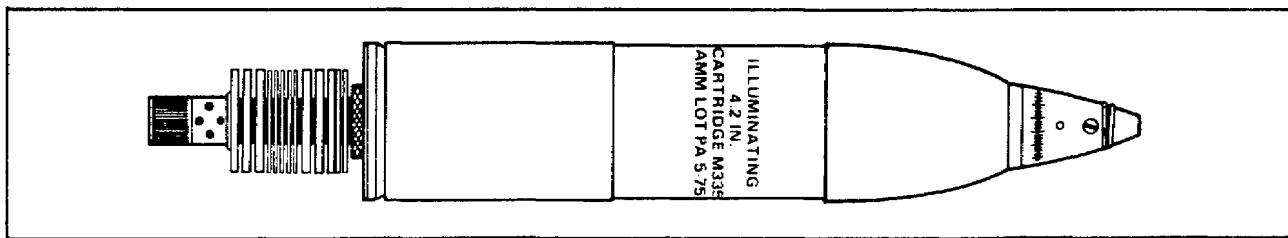

Figure 35. 4.2-Inch Illuminating Mortar Cartridge.
**4.2-Inch Illuminating Mortar Ammunition.** The 4.2-inch illuminating mortar cartridge is shown in Figure 35. This cartridge uses a time fuze and a black-powder expelling charge. The filler consists of illuminating charges and a parachute. When the fuze functions at a pre-designed time after firing, the entire payload is expelled from the base. The illuminating charge is ignited, and the parachute opens. The burning illuminating charge provides light as it descends by parachute.